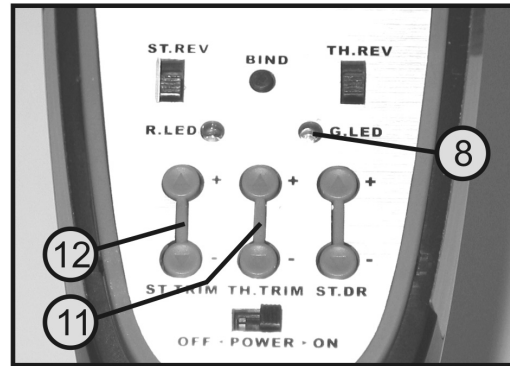

Figure 10
When using a combustion engine with throttle/brake servo, the trim setting is made just as for the steering servo. However, the two trim buttons for drive trimming (see figure 10, item 11) are used to adjust the trim value.